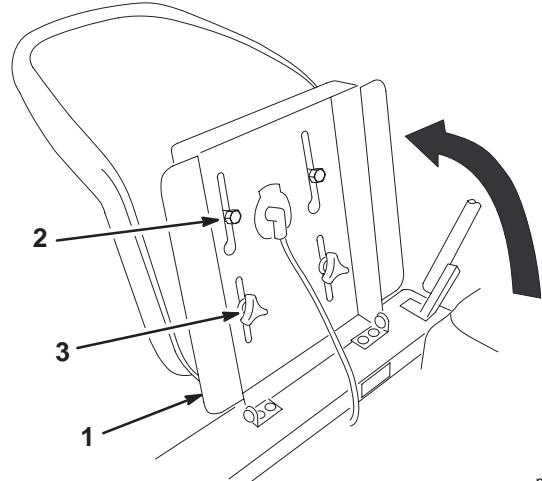

Figure 5
4. Raise the seat support on the machine (Fig. 5).
5. Slide the shoulder bolts on the bottom of the seat into the slots on the seat support (Fig. 5).
6. Secure the seat to the seat support with the spacers, flat washers and knobs removed in step 2 and 3 (Fig. 5).